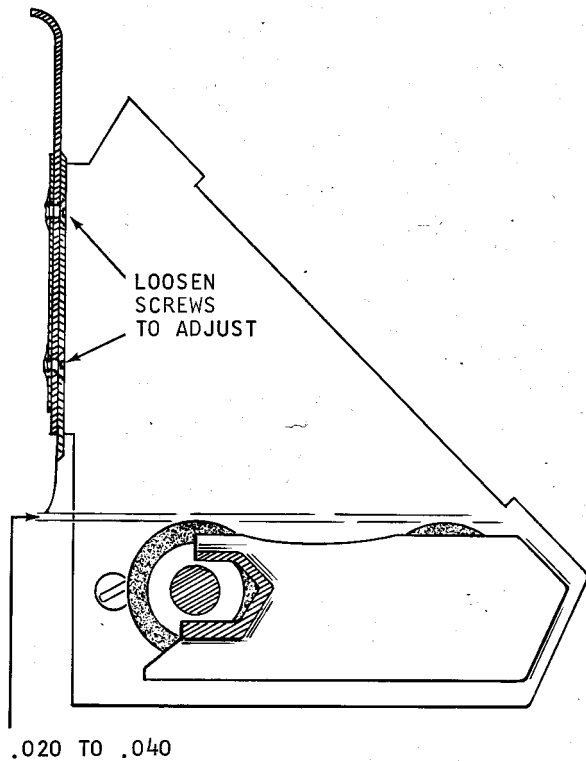

Figure 15. Magazine Throat Clearance
4. Adjust the lower magazine throat so that they are .020" to .040" above the imaginary plane determined by the tops of the feed rolls (Figure 15). NOTE: There is no timing relationship between the side and front joggler cams, nor between the cams and the feed knives. However, the front joggler cams should be even with each other.